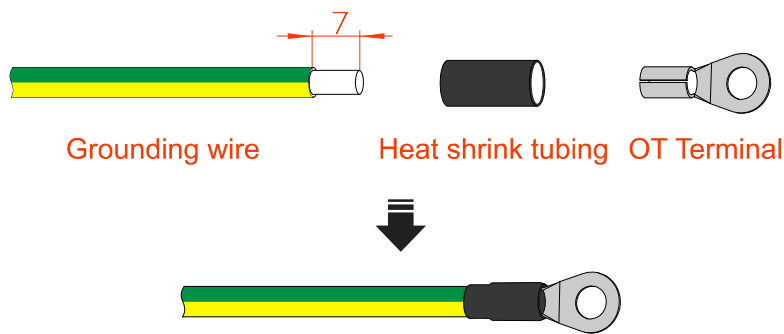

Figure3-24 Stripping diagram of external grounding wire (unit: mm)
- Step 1 Strip the insulation layer of grounding wire for about 7mm, insert the wire into OT terminal and crimp them by crimping tool, the as shown in Figure 3-24.